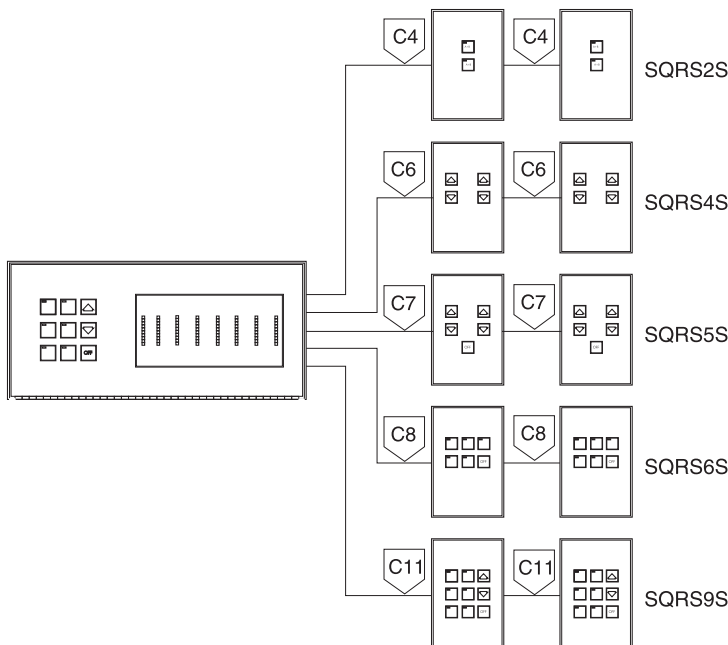
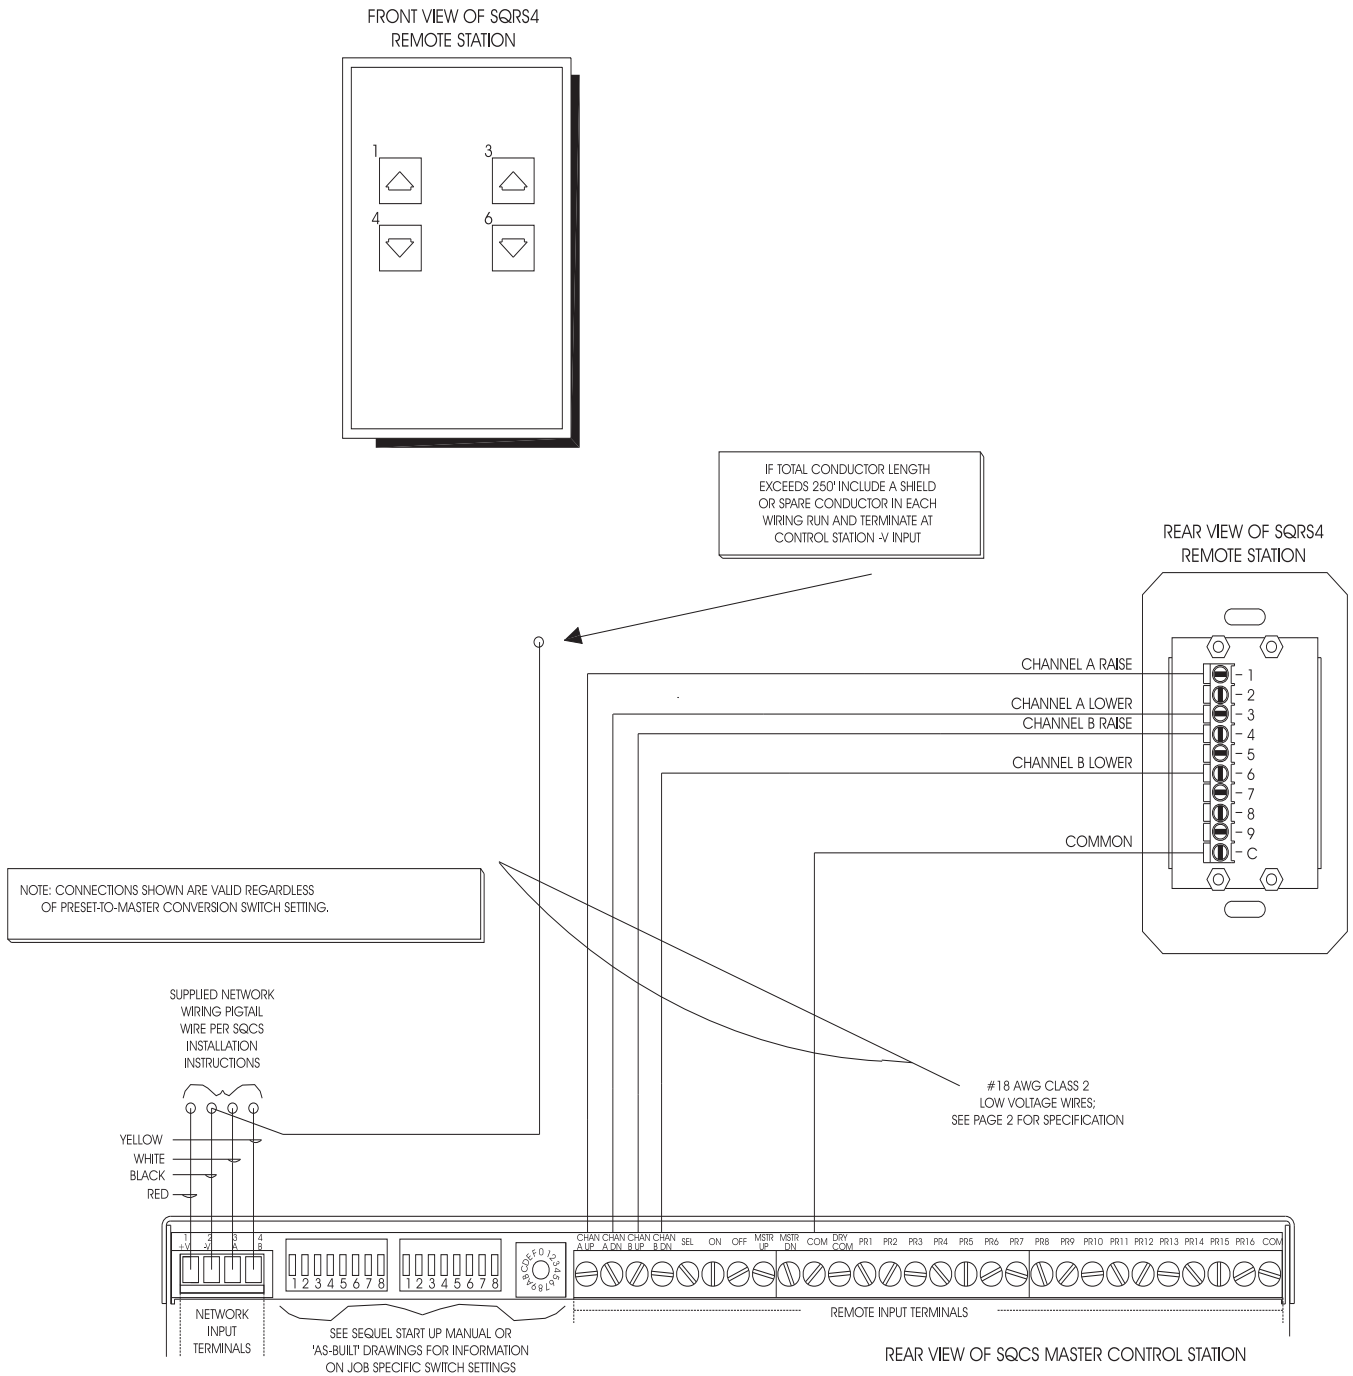

Figure 1
Figure 3 - Sequel Control Station to SQRS4S Remote Control Station Interconnection Wiring Details
2. Connect this remote to a single Sequel Series Control Station (SQCS, SQMPCS, SQIDC) or a single Remote Station Interface (SQRSI, SQMPRSI) with (5) Class 2 #18 AWG conductors. Add a spare conductor to this run if total length exceeds 250 feet (80m).
3. Remotes which have the same function can be wired in a daisy chain, or may be home run separately and connected under the same terminal at the control station or interface. See figure 1.
4. Refer to figure 1 (below left) for typical one line wiring details, and to figures 3 - 5 for Lithonia typical interconnection wiring details. Refer to "As Built" drawings for project specific wiring details.